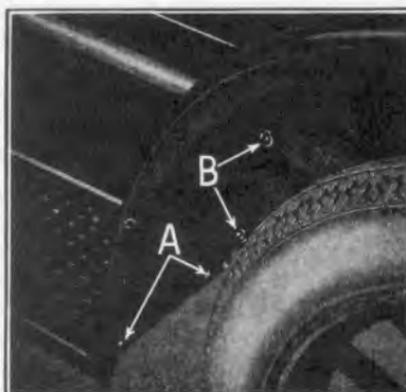

Fig. 539
1160 To remove the new design rear fender, run off nuts on the ends of the two rear fender to running board bolts (see "A" Fig. 539).
- 1163 Insert the two fender to running board bolts through fender and running board (see "A" Fig. 539). Place lockwashers over the ends of the bolts and run down the nuts. Do not tighten the nuts until all fender bolts and nuts are entered.
- 1164 Place flat washers over the ends of the two fender to dust shield bolts and insert bolts through fender and dust shield (see "B" Fig. 539). Place a flat washer, also a lockwasher over the ends of each of the two bolts. Start nuts on ends of bolts and draw them down tightly.
- 1169 Run off the nuts on the ends of the two rear fender to running board bolts (see "A" Fig. 539) and withdraw bolts.
- 1173 Insert the two rear fender to running board bolts (see "A" Fig. 539) through fender and running board. Place lockwashers over the ends of the bolts and run down the nuts but do not tighten until all bolts have been entered.
- 1181 Run off the nuts on the ends of the two rear fender to dust shield bolts (see "B" Fig. 539) and withdraw the bolts.